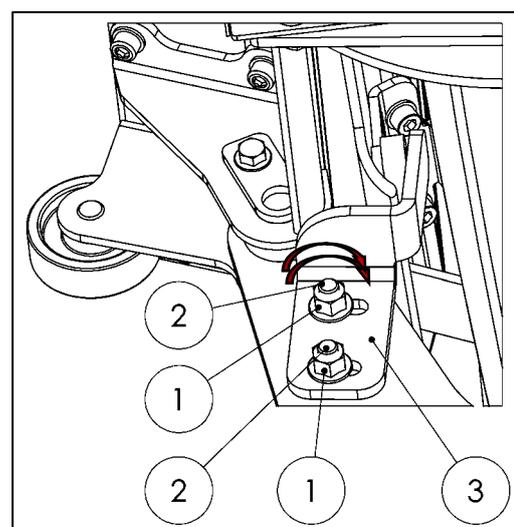

Figure 83
- Tighten the nuts (1) and bolts (2) on the stopper (3) to a torque of 80 Nm (see Fig. 83).